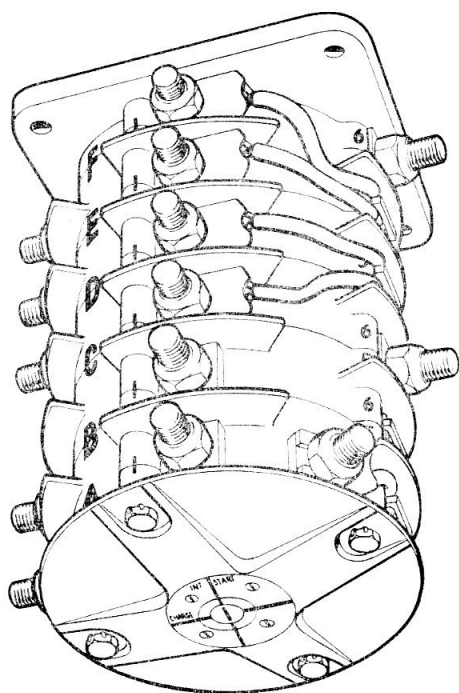

Fig. 1. Schematic view of switch
5. An aluminium index plate is attached to the round endplate at the base of the switch and indicates the position of the moving contacts: CHARGE or INTERNAL START. Each section carries an alphabetical reference letter and the terminal banks are numbered (fig. 1).
6. Interconnection is necessary to obtain the conditions required in the battery change-over circuit and this is achieved by means of the ten flexible link assemblies and one stiff link fitted to the terminal banks. Two additional terminal studs are linked to contacts 5-6 on section 'A' to accommodate the aircraft cables to those contacts. A schematic view of the switch is shown in fig. 1.
11. The switch is held together by two endplate assemblies (fig. 1); the square endplate being utilized for mounting purposes on installation and is drilled with four 0.257 in. holes on 5.5 in. P.C.D.